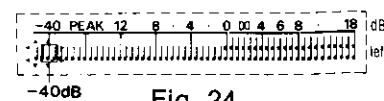

Fig. 24
6. At this time, check that -40dB indicator is dimmed (intermediate brightness between full brightness and light-out; See fig. 24).